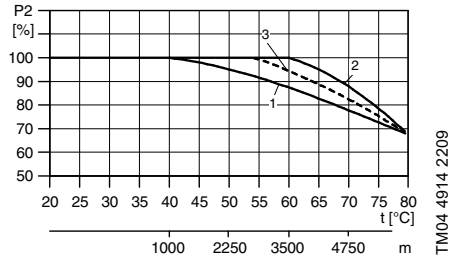

Fig. 23 Relationship between motor output (P2) and ambient temperature
If the ambient temperature or the altitude exceeds the recommended maximum ambient temperature or maximum altitude above sea level, the motor must not be fully loaded due to the low density and consequently low cooling effect of the air. See fig. 23. In such cases, it may be necessary to use a motor with a higher output.
0.75 - 22 kW	Fig. 23, curve 2
Figure 23 shows that an MG IE3 motor must not be loaded by more than 89 % of the rated output at an ambient temperature of 70 °C. If the pump is installed 4750 metres above sea level, the motor must not be loaded by more than 89 % of the rated output. In cases where both the maximum temperature and the maximum altitude are exceeded, the derating factors must be multiplied ($0.89 \times 0.89 = 0.79$).